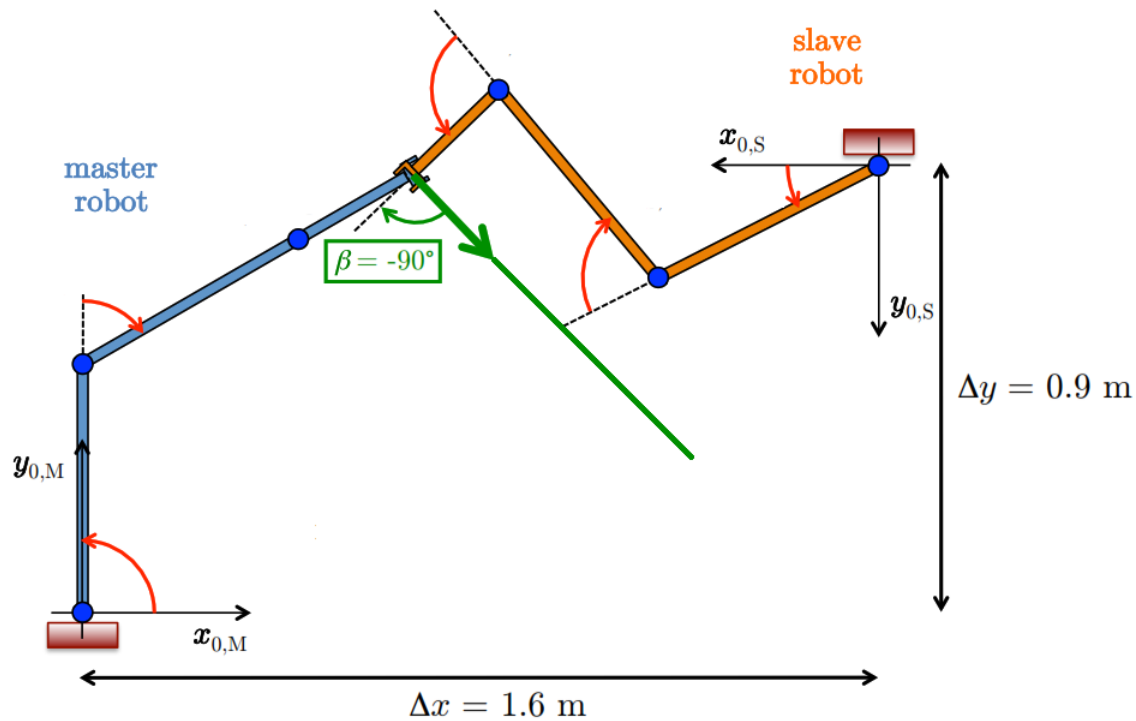

Figure 2: Desired Cartesian trajectory to be executed by two robots
- The desired motion will be along a straight line path, which is specified by the initial direction of the end-effector velocity of the primary manipulator, $v_M(t_0)$, resulting from the initial joint velocities $(\dot{\theta}_1(t_0), \dot{\theta}_2(t_0), \dot{\theta}_3(t_0)) = (-30^\circ/s, 0, -90^\circ/s)$. This is shown by the green line in Figure 2;
- The end-effector of the secondary robot should always be oriented orthogonal to the linear path, as shown by the orientation of the orange end-effector relative to the green line in Figure 2.